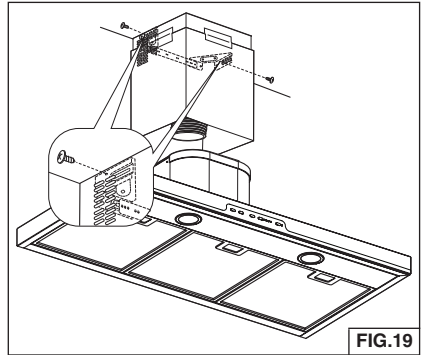

FIG.19
7. Lift the flue into position. Secure upper flue to the flue mounting bracket with (2) 3.9 x 6 mm screws. Fig. 19.